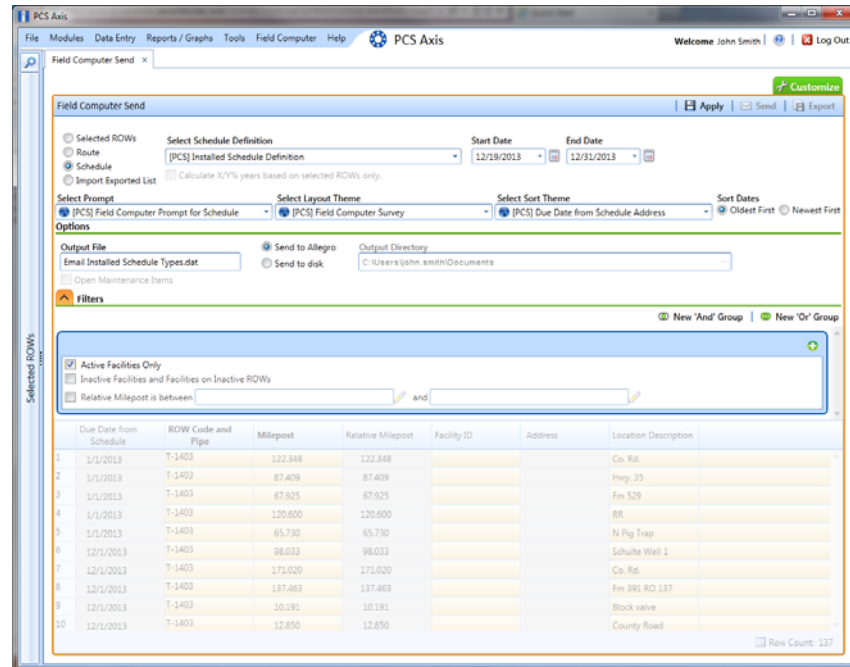

Figure 12-11. Filters
- 14** Click the  **Filters** button to open the *Filters* panel (Figure 12-11).